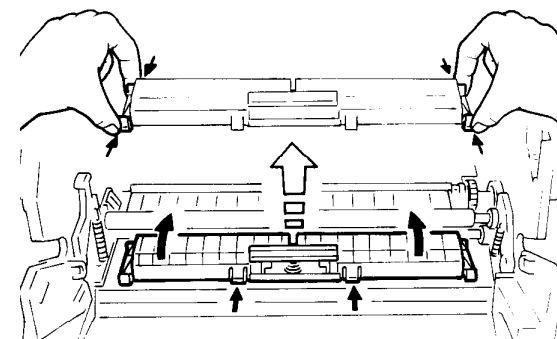

Figure 1. Right paper guide
9. Remove the right paper guide (figure 1).